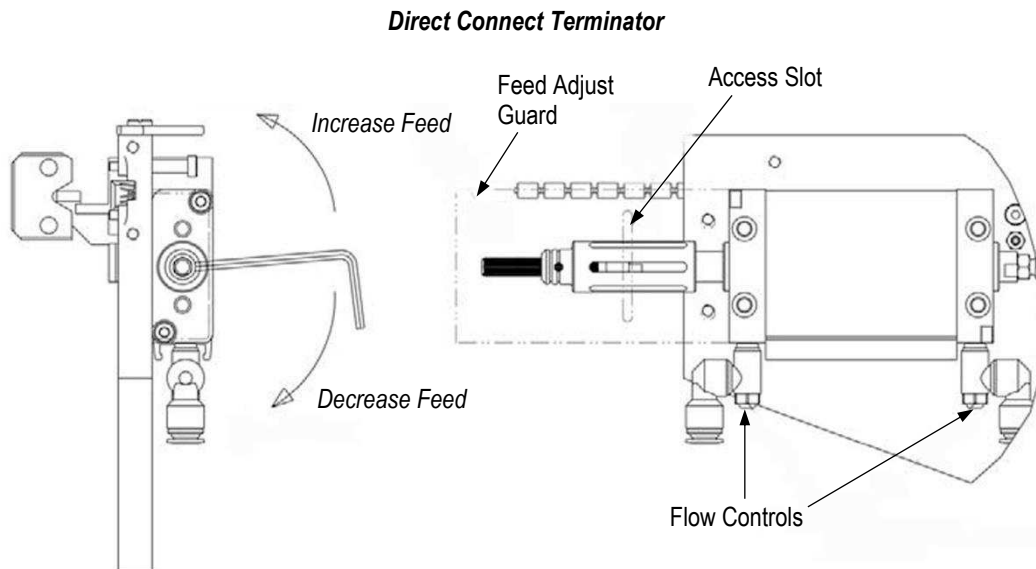

Figure 23
2. Insert a 3-mm hex wrench or similar-sized screwdriver through the access slot in the rear feed guard and into a slot in the adjustment wheel. Refer to Figure 23.
3. Turn the adjustment wheel in the desired direction to increase or decrease the feed distance (Figure 23).